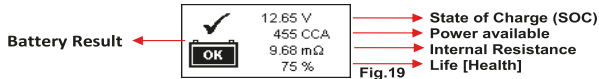

Fig.19
15. The results of the test will be displayed on the screen (Fig.19) within 7 seconds.